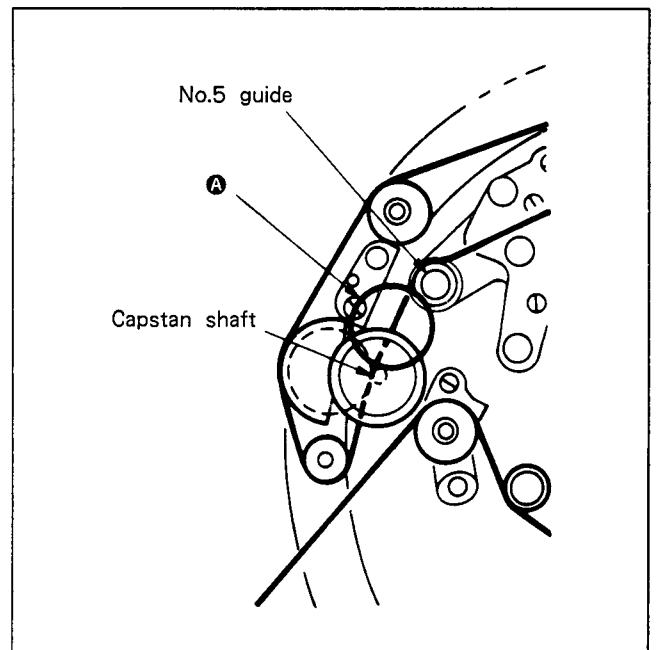

Fig. 7-92.
**Note :** If No.6 guide is raised too much, wrinkles may occur in section A between the capstan spindle and No.5 guide. Confirm that no wrinkles are occurring. (See Fig. 7-92.)
**Note :** If No.6 guide is raised too much, wrinkles may occur between the capstan spindle and No.5 guide (in section A of Fig. 7-92.). Confirm that no wrinkles are occurring.